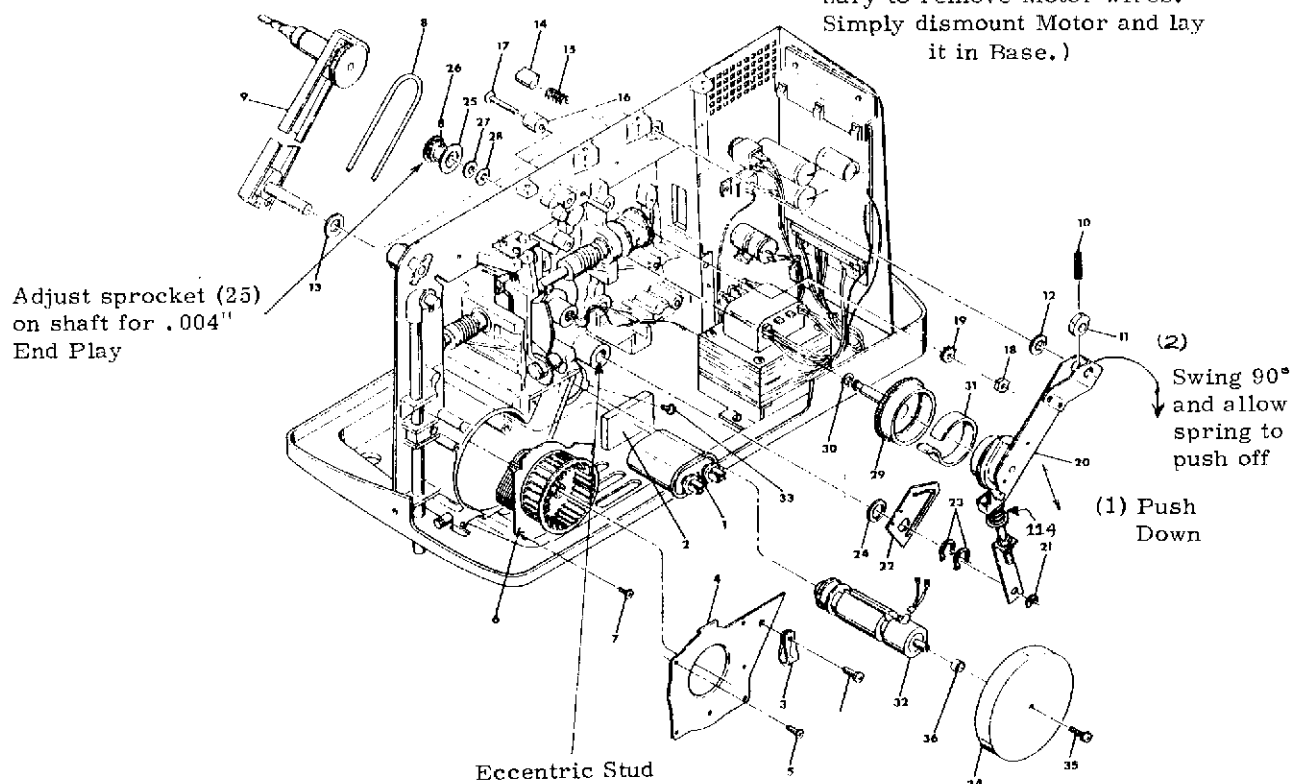
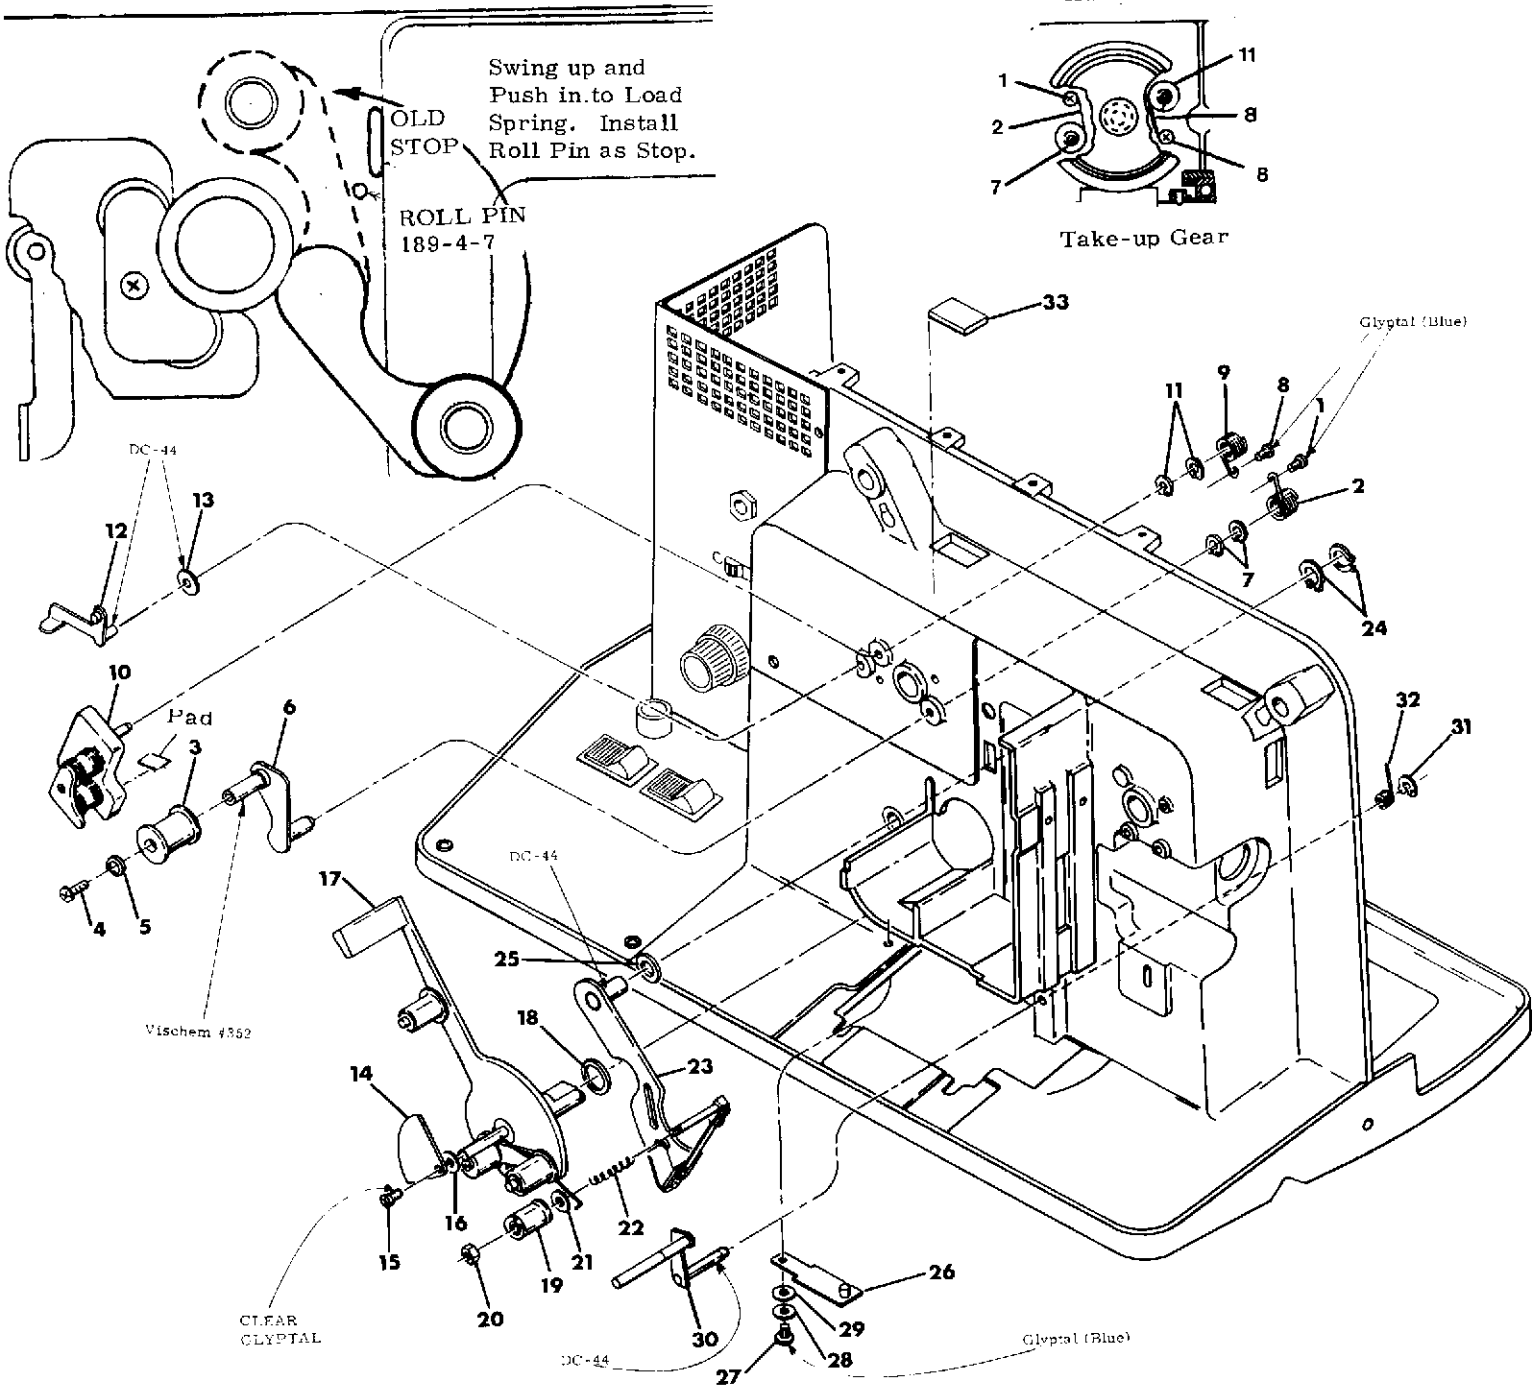

Figure 3-2. DISASSEMBLY AND REASSEMBLY
Figure 3-3. DISASSEMBLY AND REASSEMBLY
### Removal of Takeup Clutch (Figure 3-2)
3. Remove take-up reel arm Belt (8).
4. Remove Roll Pin (10). (A large pair of diagonal cutters or vise-grips generally serve well in gripping this pin sufficiently to pry it out. It may also be driven out with a 3/32" drive punch.)
5. Remove Reel Arm (9) being careful not to lose washers (12) and (13), Reel Arm Lock (14) and spring (15). (Older machines use a guide plate in place of Washer 13).
6. Pull Take-up Clutch Arm (20) away from main casting so the pulley comes out of the Takeup Gear (29) and Liner (31).
7. Push down on Take-up Clutch Arm (20) to compress the spring (114) on the adjusting rod and allow the hook on the rod to move up out of the notch in the Take-up Clutch Arm (20). Now swing the upper part of the Takeup Clutch Arm (20) toward you 90° and allow the spring (114) on the adjusting rod to push the Takeup Clutch Arm up off the rod.
**Reassembly of Takeup Clutch to Projector (Figure 3-2)**
- a. Reel Arm Lock (14) and Spring (15).
- b. Rod of Reel Arm (9).
2. Assemble Reel Arm Lock (14) and Spring (15) and hold in place while assembling Reel Arm (9).
3. Hold Take-up Clutch Arm (20) so it can be pushed down over the hook in the end of the adjusting rod. (This is the same position it was in when it was removed from the adjusting rod.)
4. Push Take-up Clutch Arm (20) down to compress the Spring (114) until the hook in the Adjusting Rod comes up over the top of the notch in the Takeup Clutch Arm (20).
5. Rotate the Take-up Clutch Arm (20) 90° back toward the main casting until the end of the hook lines up with the notch in the arm. Now allow the Spring (114) to push the arm up so the hook seats in the notch.
6. Push Take-up Clutch Arm (20) onto the Reel Arm Shaft and seat the pulley inside the takeup clutch Liner (31).
7. Install a new Roll Pin (10) making sure it is pushed far enough into hole of Reel Arm shaft to be secure and yet protrudes up above the upper end of the Takeup Clutch Arm.
**Removal of Takeup Gear (Figure 3-2)**
2. Open Takeup Sprocket Shoe Arm (10), Figure 3-3.
3. Loosen Screw (26) and hold Takeup Sprocket (25) while removing Takeup Gear (29).
**Reassembly of Takeup Gear to Projector (Figure 3-2)**
- a. Washers (27), (28) and (30).
- b. Takeup Gear (29) teeth.
2. Apply one drop of Teresso Oil N-75 to shaft of Gear (29).
3. Press Washers (27) and (28) onto Sprocket (25) (Lubricant will hold them in place).
4. Hold Sprocket (25) in place in front of main casting bearing and slide shaft of Takeup Gear (29) through bearing and into Sprocket (25).
5. Hold Takeup Gear firmly against main casting, insert a .004 shim between Washer (28) and main casting and push Sprocket (25) firmly against main casting with this shim in place. Tighten Screw (26) and remove .004 shim. End play of sprocket should be .003 to .005.
**Removal of Reel Tension Arm (Figure 3-3)**
**Reassembly of Reel Tension Arm to Projector (Figure 3-3)**
- a. Use a prick punch to locate a hole just below and slightly behind the reel tension arm Stop molded as part of the main casting (note position in Figure 3-3)
2. Apply Vischem 352 lubricant to roller shaft of Reel Tension Arm and assemble Roller (3) to arm.
4. Assemble Reel Tension Arm to projector - allow it to hang down as shown in (Figure 3-3)